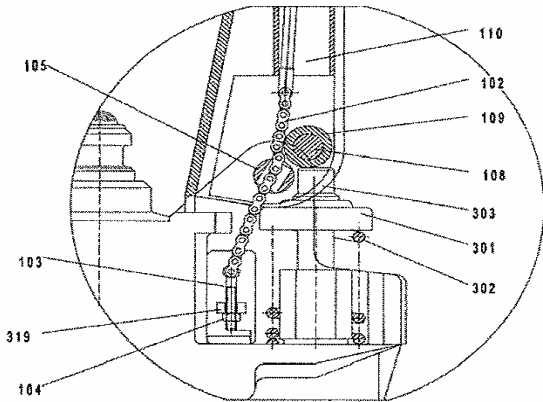

Fig.2
2 - Let control lever (117) to the LOWER position, then pass the adjusting nut (104), adjusting bolt (103) and chain (102) through the hole of axle (105) - See Fig.2